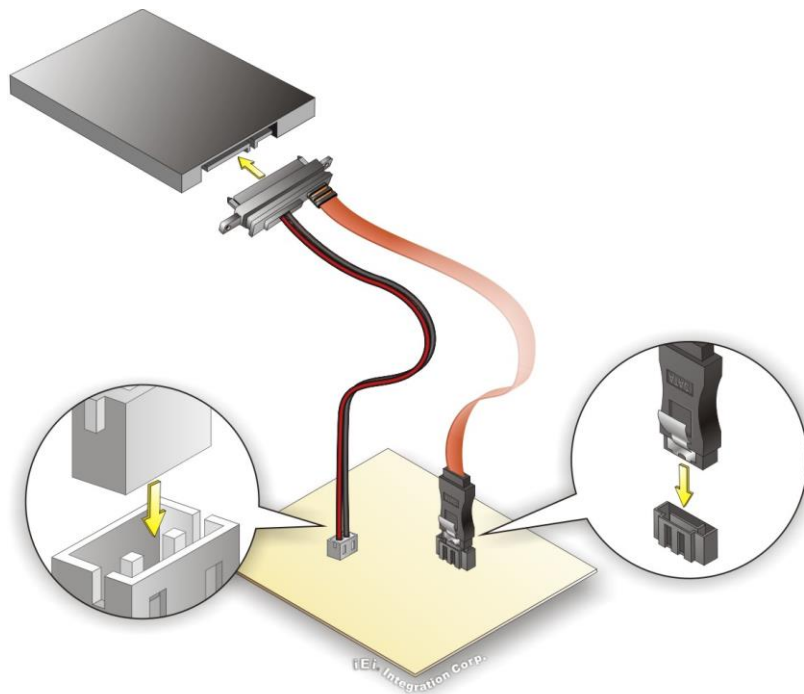

Figure 4-12: SATA Drive Cable Connection
Step 2: Insert the cable connector. Insert the cable connector into the on-board SATA drive connector and the SATA power connector. See **Figure 4-12**.